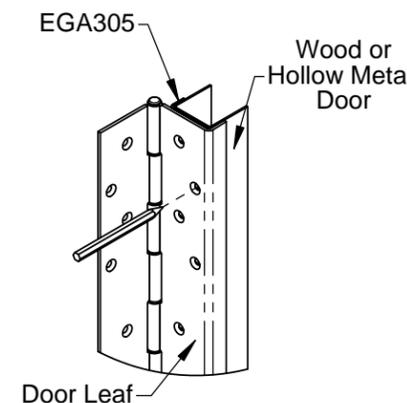

Fig. 2
2. Mark and center punch each hole on the door with the hinge held firmly in place (Fig.2). Remove the hinge from the door and prepare to drill.